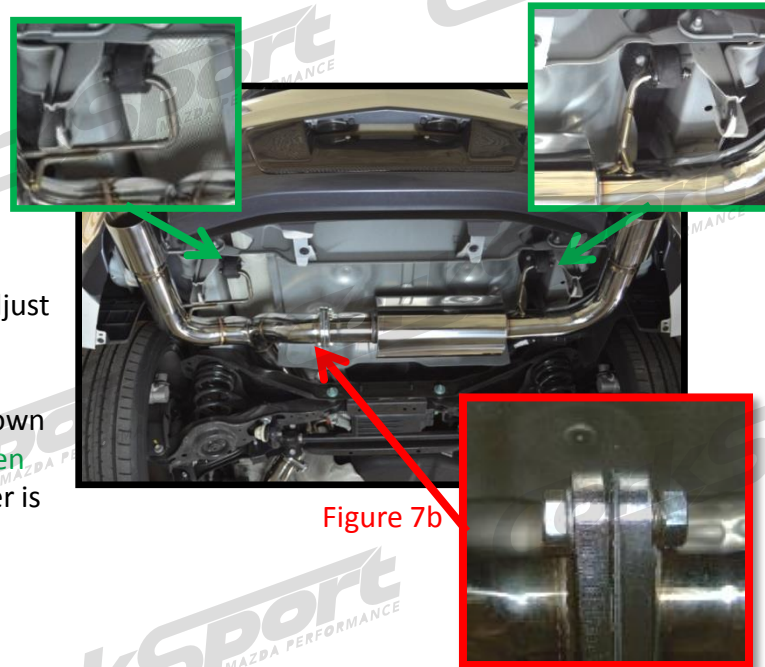

Figure 7b
- a) **Adjust the rear passenger side to match the drivers side.** Figure 7a shows how the tips should look. If one is higher than the other, you will need to loosen the two (2) M10 bolts holding the two sections together, align the tailpipes, and then retighten the bolts (red arrow in Figure 7b). Your exhaust should now look like Figure 7a.
- b) **Adjust the alignment of the tips.** If you need to adjust the entire height of the exhaust or make small alignment changes you can do this using a 17mm boxed end wrench and gently prying the hanger down on the bushing side (shown in Figure 7b in the green arrow) until the desired clearance from the bumper is achieved.